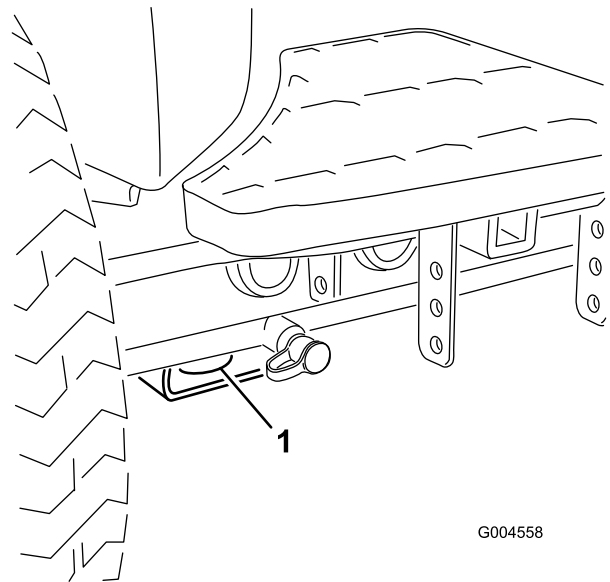

Figure 34
- Front—the hole in the rectangular pad, under the axle tube, inside each front tire (Figure 34).